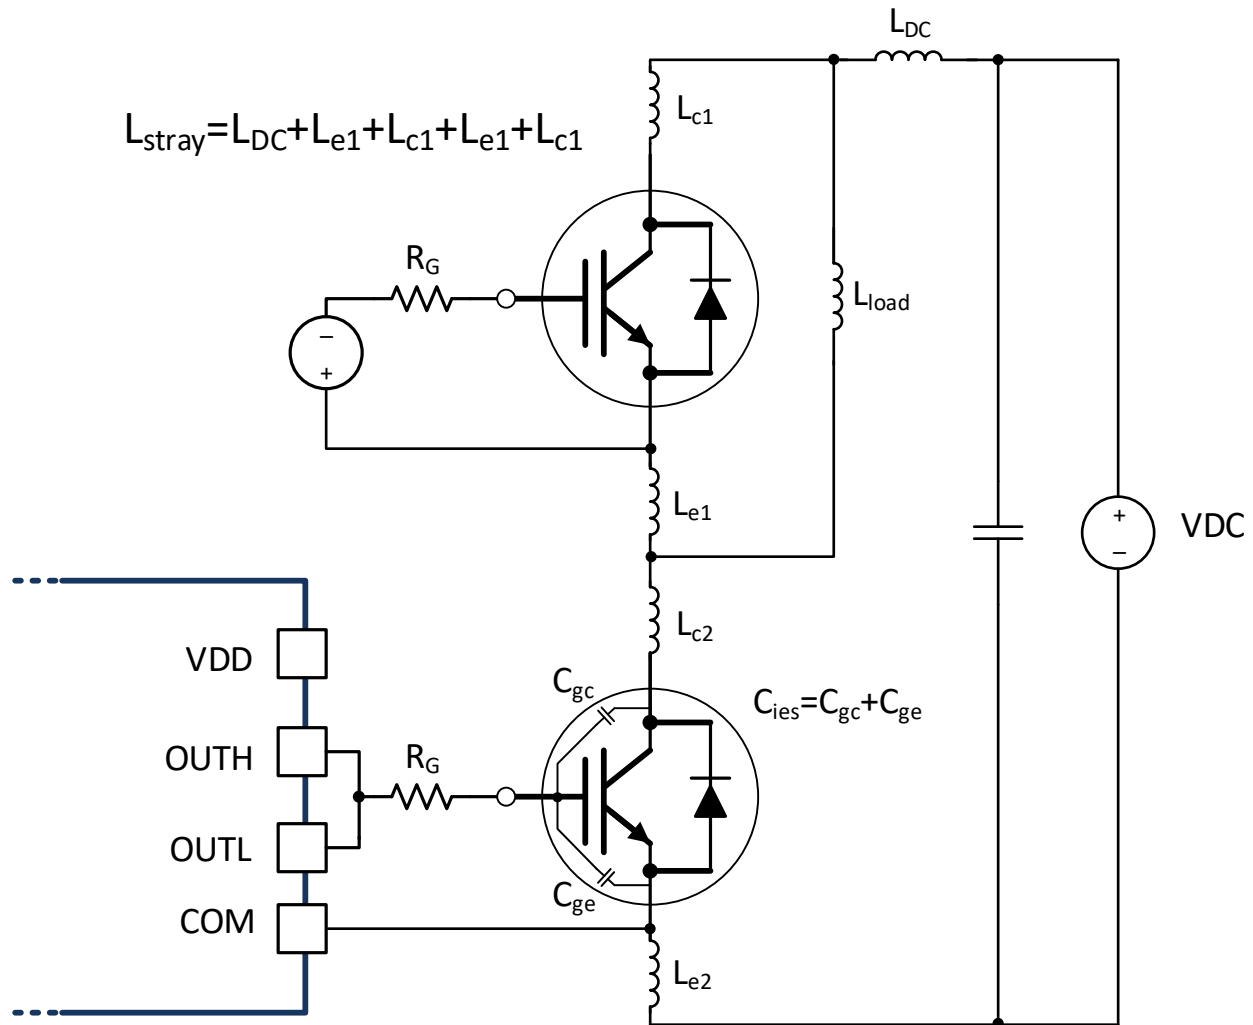

Figure 8-6. Stray Parasitic Inductance of IGBTs in a Half-Bridge Configuration
- L_{stray} is the stray inductance in power switching loop, as shown in Figure 8-6.